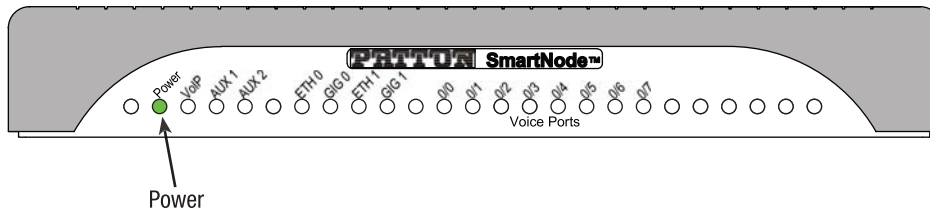

Figure 12. Power LED
3. Verify that the green *Power* LED is lit (see figure 12 on page 38). It blinks fast during bootloader phase and blinks slow during boot process of Trinity Software. It becomes solid when the system is up and running.